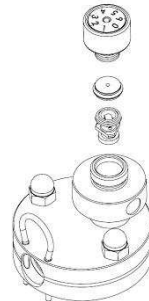

fig. 27
- Put-in the return valve and the air disc. Put on the air regulation screw. (fig. 27)